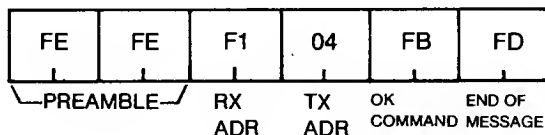

Fig. 28
- (2) If the controller sends a packet as shown in Fig. 27, the IC-735 returns the packet shown in Fig. 28 after
- (3) If the receiving IC-735 is scanning, it changes mode and continues scanning, but no acknowledgement is sent.